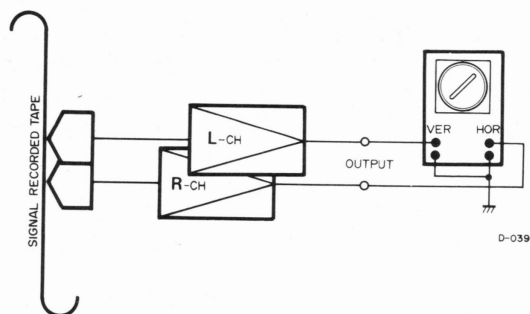

Fig. 7-8 Fine Adjustment Set Up -Head Azimuth-
7. Connect the test equipment as shown in Fig. 7-8.